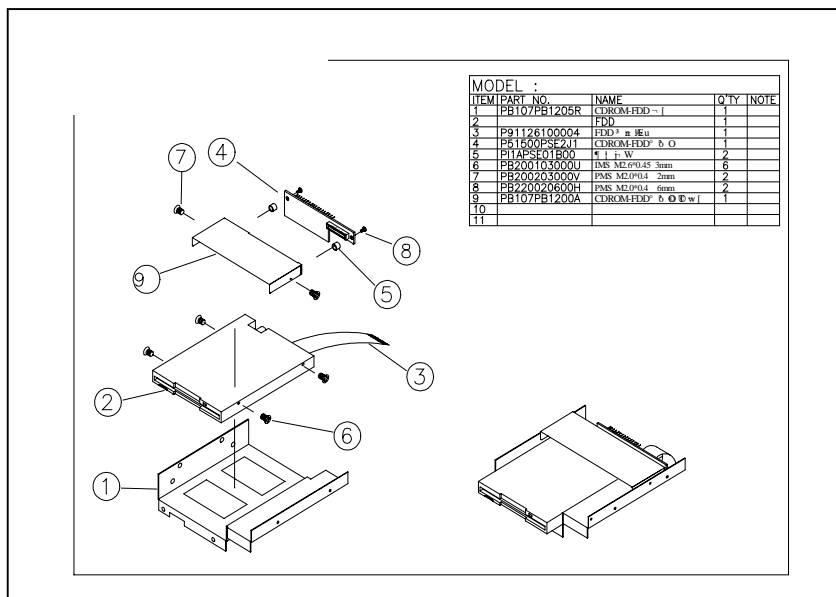

FIGURE 5-10: FDD INSTALLTION
5. Refer to Figure 5-10. Attach one end of the 26-pin FDD flat cable (3) to the slim floppy disk drive connector (2) first. Match pin 1 of the floppy disk drive and pin 1 of the cable.
6. Place the floppy disk drive to the bracket (1). Fix it on the bracket with the 4 screws.
- A. *No CD-ROM* is to be accommodated to the system. Refer to Figure 5-10 for reference.
- 1). Fix the FDD/CD-ROM board (4) to the FDD bracket (9).
- 2). Then, fix the FDD bracket with FDD/CD-ROM board to the FDD/CD-ROM bracket (1).
- 3). Connect the other end of the 26-pin FDD cable (3) to the 26-pin connector on the FDD/CD-ROM board (4).